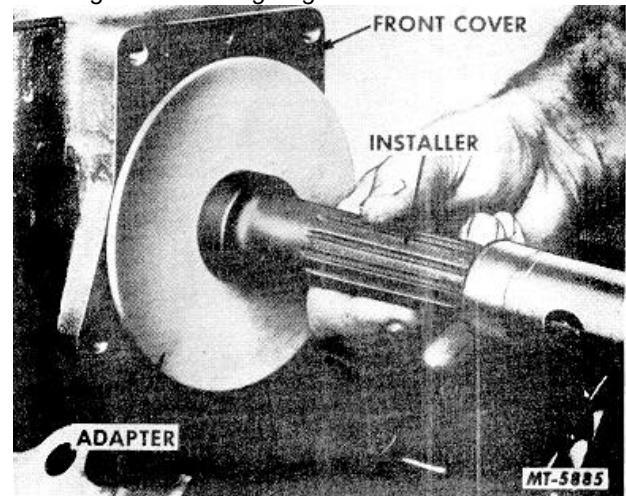

Fig. 170 Installing Injection Pump Drive Shaft Rear Bearing
- b. Position bearing on pilot of SE-2098-1 installer and install bearing in engine front cover (Fig. 170). Bearing is properly located when adapter contacts machined pump mounting surface of front cover.